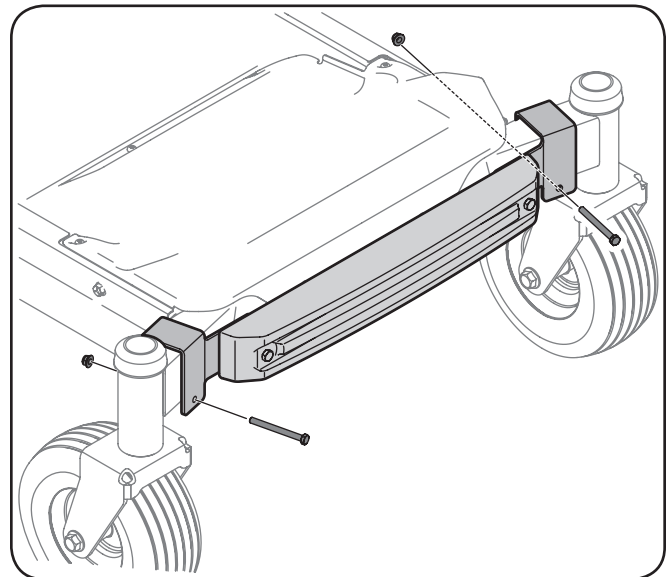

Figure 4-26
2. Attach the weight bar assembly to the front axle with a 3 1/4-inch (710-3056) screw and (712-04063) flange nut from hardware pack 689-00325 on the left side. Repeat on the right side. Do not fully tighten at this time. See Figure 4-26.